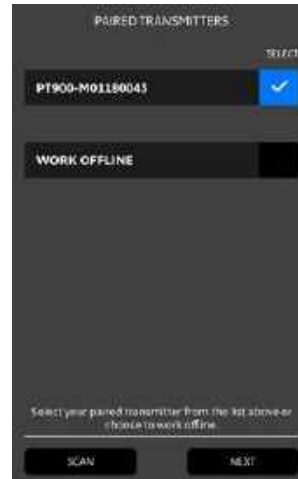

Figure 70: Paired transmitters list
12. Click the *back* button on the tablet to return to the PT900 *app* main menu. Then, select your PT900 transmitter in the *transmitters paired* list and click NEXT to open the main menu. For example, the PT900-M09160025 transmitter is selected from the list in Figure 70 below.
NOTE: If desired, you may simulate the *app* operation without connecting to the transmitter. To do so, click the *work offline* option in Figure 70 above.